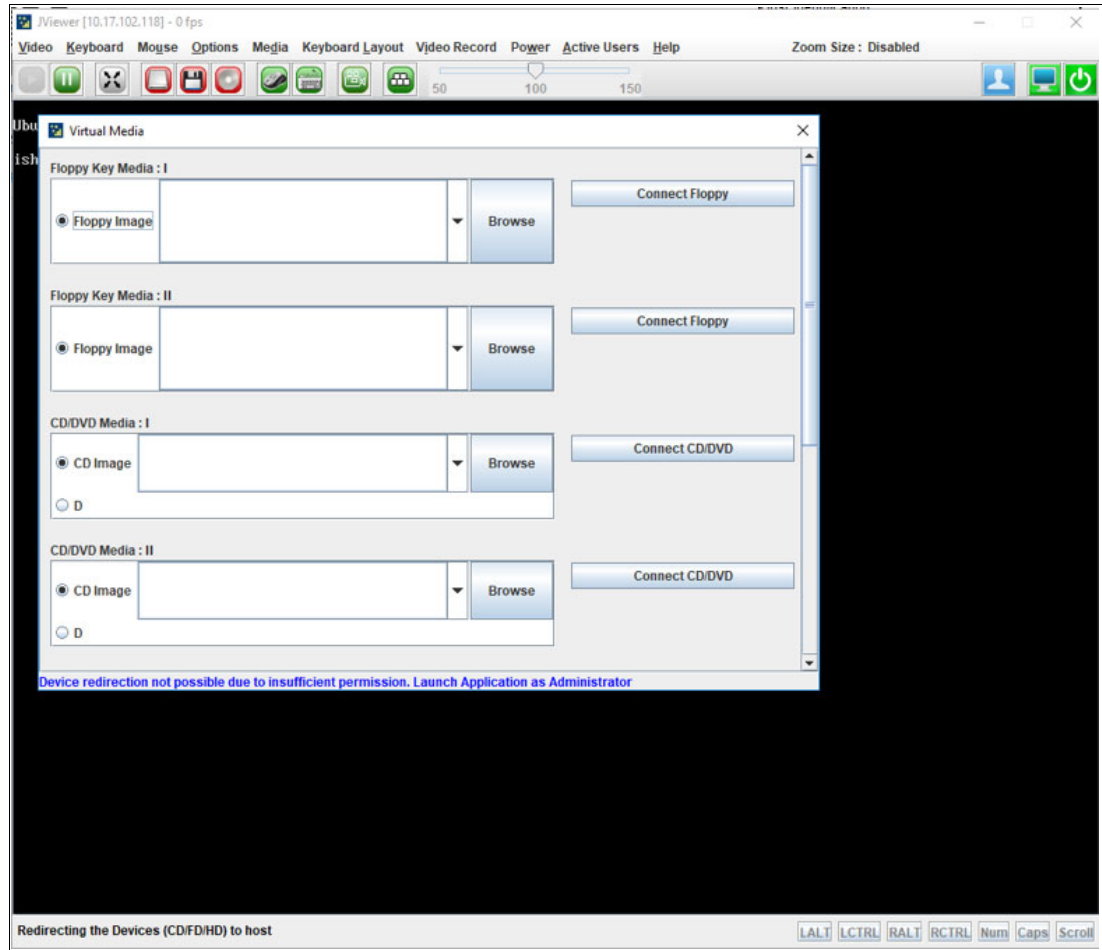

Figure 4-24 Console Redirection window
- In the Console Redirection window (Figure 4-24), select **Media** → **Virtual Media wizard** from the menu.